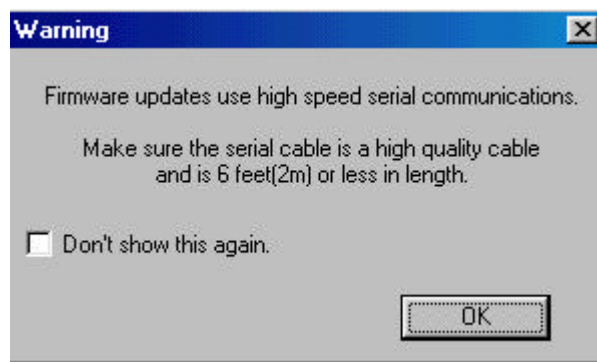

Figure 2.26 – Cable Warning
2. A Warning dialog box (see Figure 2.26) appears regarding the quality and length of the cable. Press **OK** to proceed.